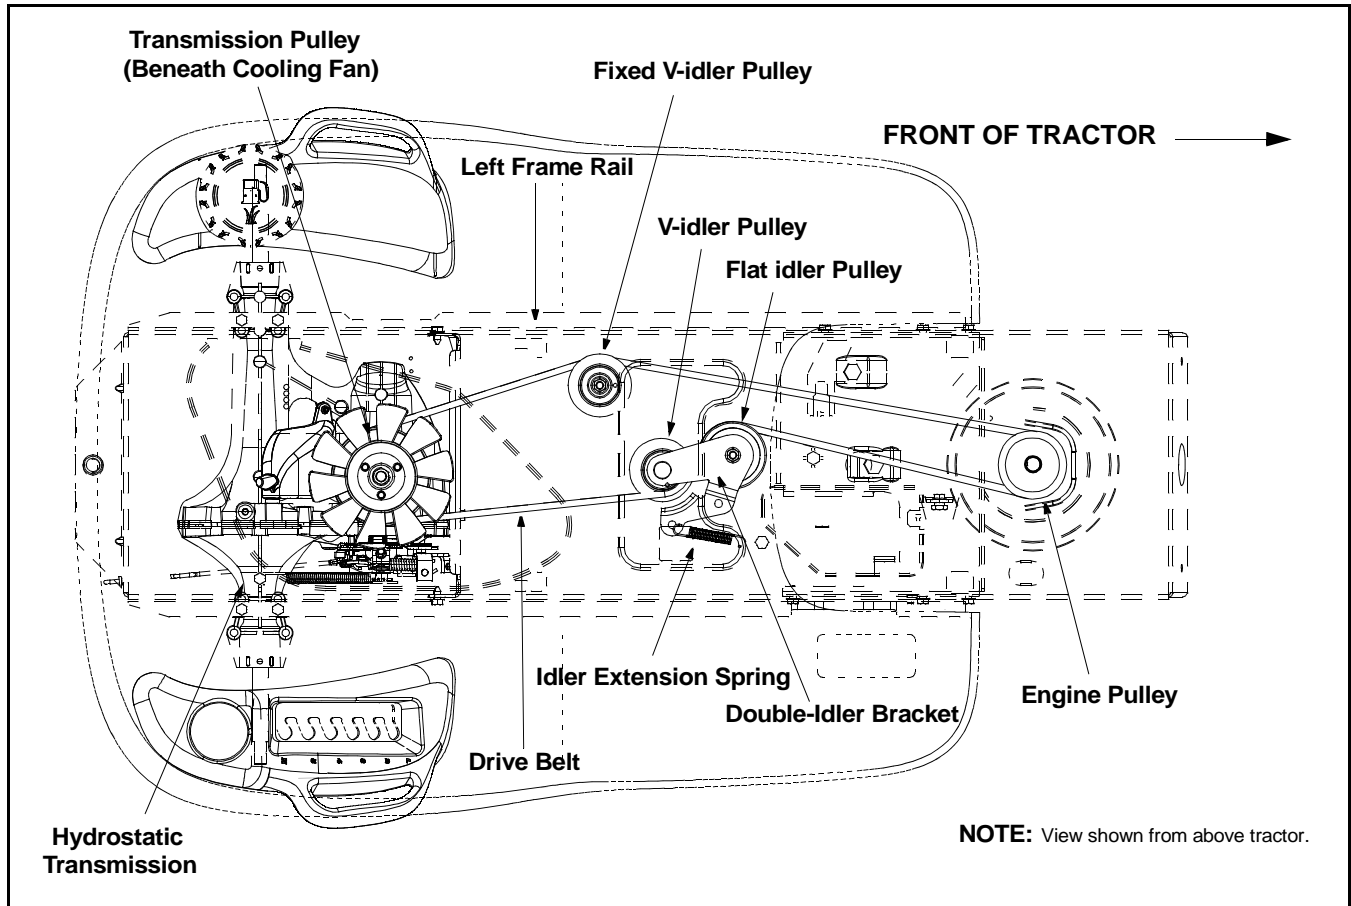

Figure 28
- Locate the fixed v-idler pulley found on the left underside of the frame. See Figure 28.
- Grasp the belt on both sides of the pulley and gently move it toward the left frame rail allowing it to unseat itself from the fixed v-idler. See Figure 28.
- Remove the drive belt by feeding it from front to rear, toward the hydrostatic transmission. See Figure 28.
- Reroute the new belt around the pulleys and belt keepers, if present, EXACTLY as the old one was routed. Refer to Figure 28.